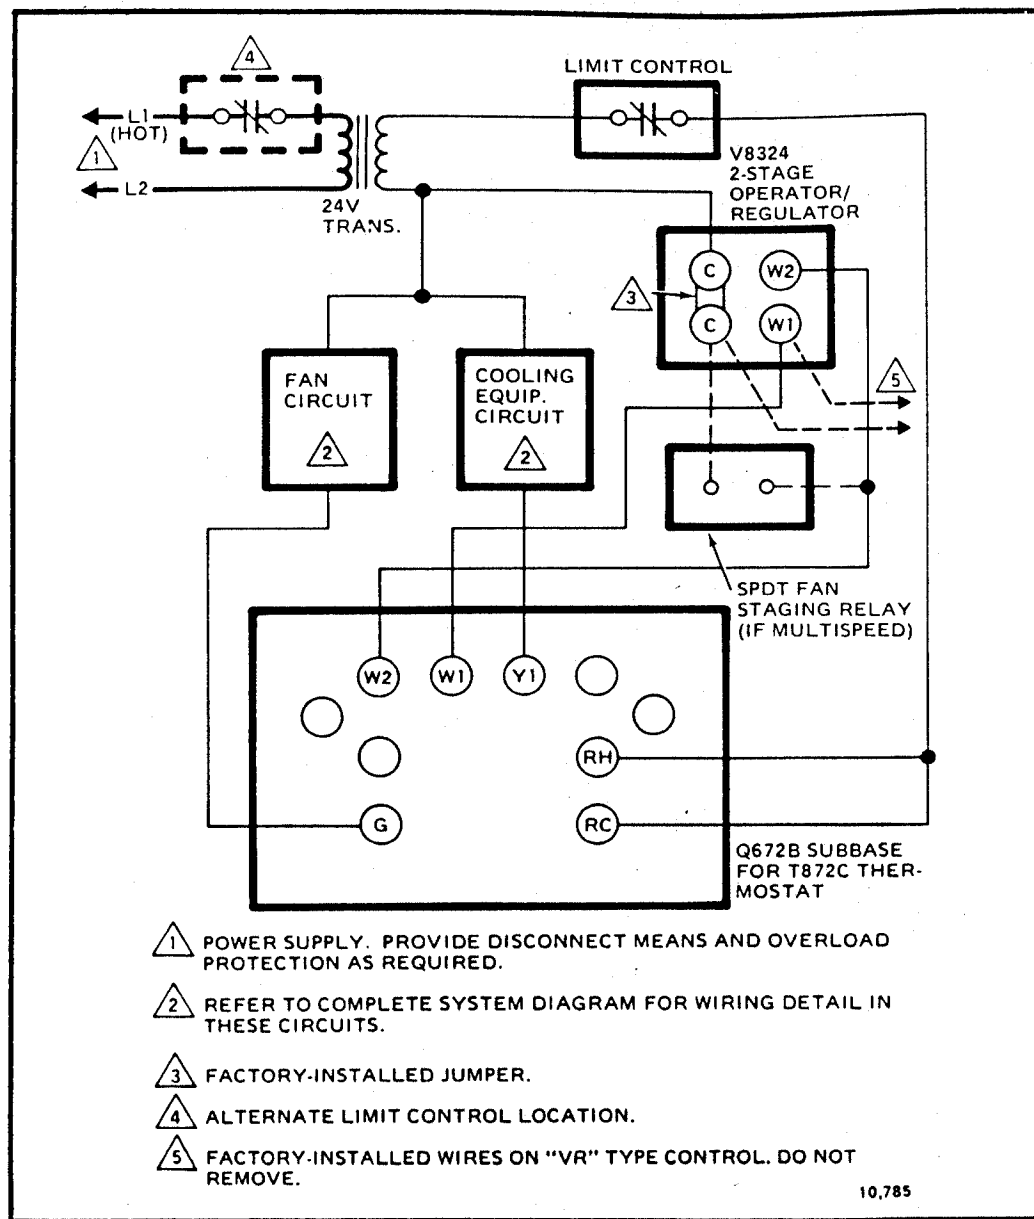

Fig. 11—Typical V850 wiring diagram with a T872C-Q672B system with 24 V relays controlling fan and cooling equipment.
1. Connect the terminals as shown in the complete circuit diagram provided by the appliance manufacturer. If not furnished, refer to Fig. 11.